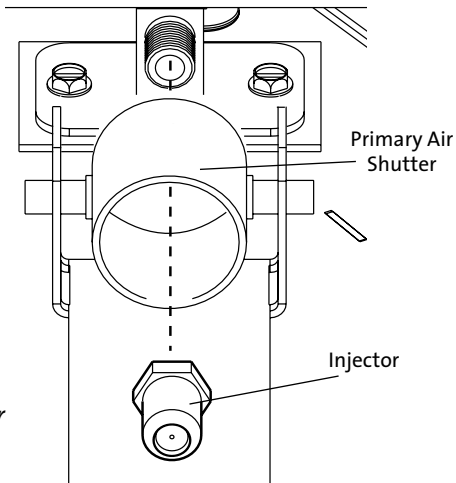

Figure 7.3. Change the burner injector.
6. Change the Burner Injector. See fig. 7.3. Using a 1/2" open end wrench or deep-well socket remove the burner injector from the brass elbow and replace it with the injector supplied in the conversion kit.